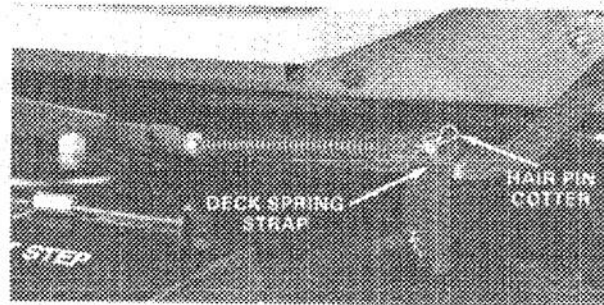

Figure 28
2. Set cutting unit down in lowest height-of-cut position, remove the hair pin cotters and washers securing the deck spring straps on both sides (Fig. 28) and pull straps off clevis pins.